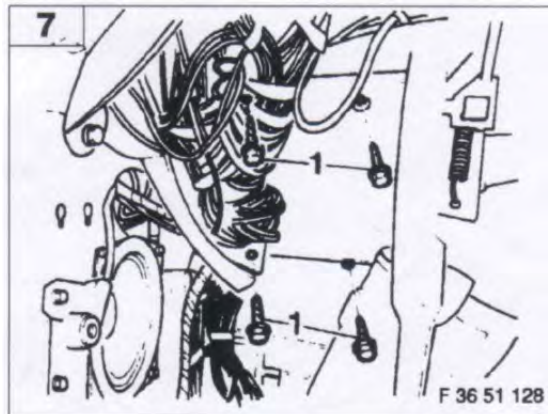

Figure 8 – Removing 4 bolts (Item 1) to release Fuse box from firewall
5.9 Partially Remove Fuse Box (Figure 8).